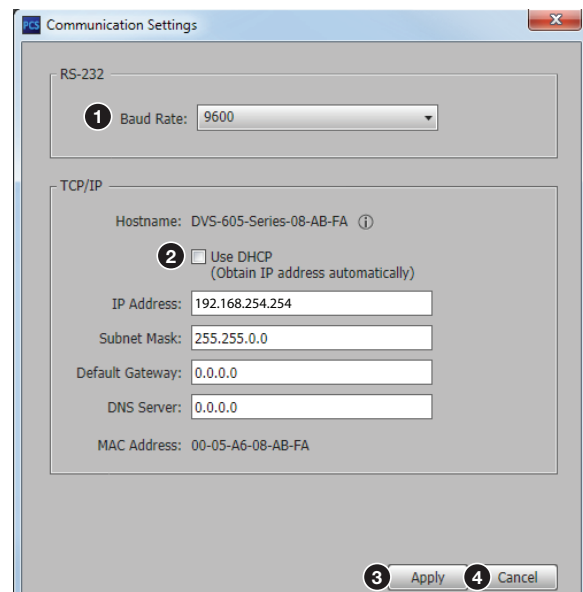

Figure 38. Communication Settings Dialog Box
1. To change the RS-232 baud rate, click and select an applicable baud rate from the RS-232 drop-down list (see figure 38, ①).
2. To obtain an IP address automatically check the **Use DHCP** checkbox (②).